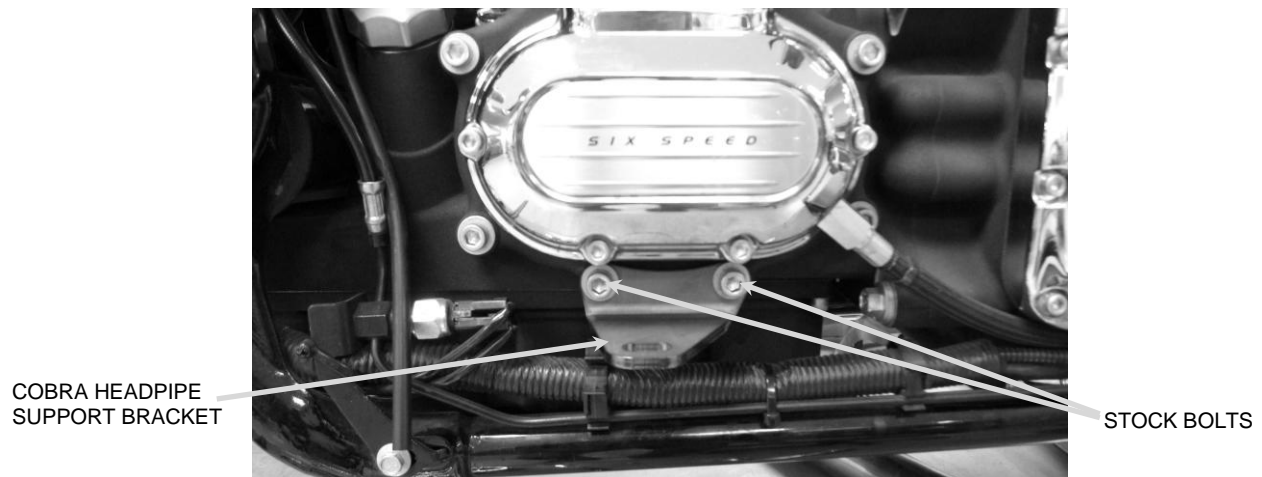

FIGURE 1
5. Install the supplied exhaust mount bracket using the stock bolts. See **FIGURE 1**. Tighten the bolts to factory specifications.